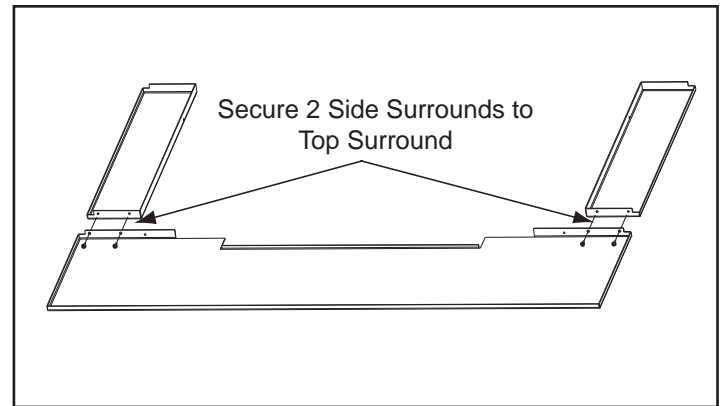

Figure 41.2
2. Using a 4 to 6 inches long Phillips head screw driver attach the side surrounds to the top surround using (2) #8 sheet metal screws on each side provided with the kit. **Figure 41.2**.